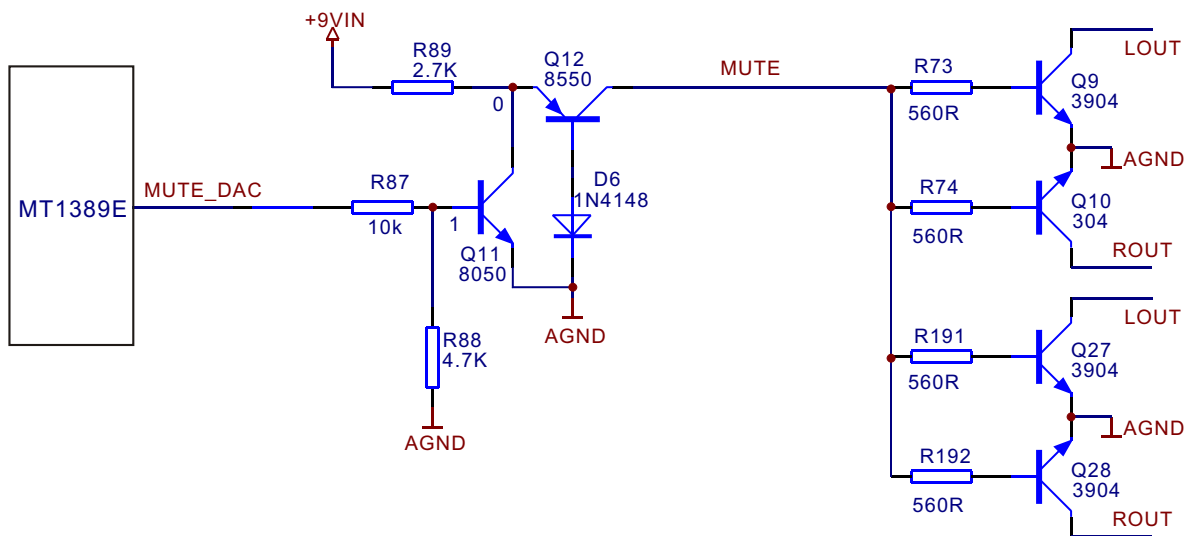

Figure 3.2.13.1 Mute circuit diagram
1. Mute circuit is shown in the figure 3.2.13.1: